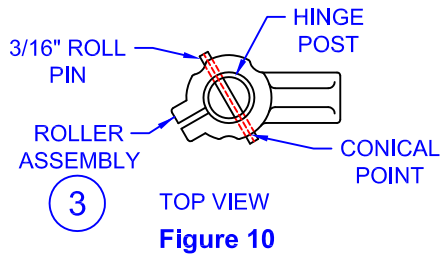

Figure 10
Use the 3/16" Drill Bit (Included in Hardware Pack - Do Not Substitute), to drill a perpendicular hole completely through the roller assembly (3) at the conical point shown in Figure 6 & Figure 10.
The 3/16" Hole Must Go Completely Through The Aluminum Roller Assembly & Hinge Post, See Figure 10. Locate the 3/16" Roll Pin supplied in your hardware pack. Using a Hammer, gently tap the roll pin into the 3/16" hole until an equal amount of roll pin is showing on each side (approx.1/8"), See Figure 10.